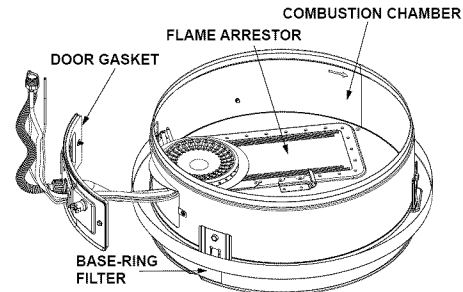

FIGURE 39.
1. At least annually, check the base-ring filter (Figure 39) for any dust or debris that may have accumulated on the filter screen. **NOTE:** If the water heater is located in an area that is subjected to lint and dirt, it may be necessary to check the base-ring filter more frequently.
2. Use a vacuum cleaner/shop vac to remove all loose debris in the combustion chamber (Figure 39). Use compressed air to clear any dust or debris that may have accumulated in the flame-arrestor.